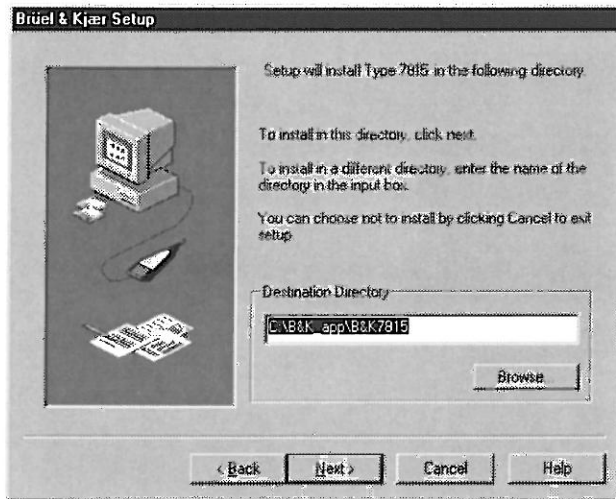

Fig.1 The Noise Explorer home directory is specified in the Destination Directory box
10. The dialog box shown in Fig. 1 will be displayed. To accept the proposed drive and directory choose  .